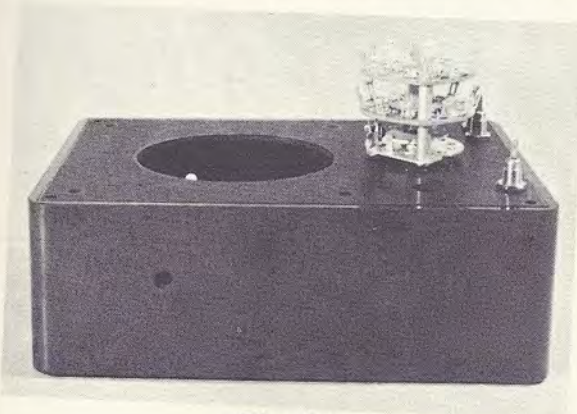

Fig. 3-8
Step 4. Place the meter box on a bench or a table and place the cover panel upside down on the four corner mounting posts in the box, as shown in Fig. 3-8. In this way, the meter box acts as a convenient support for your work. It prevents scratching or otherwise damaging the face of the cover panel. (In radio and electronics factories, supporting